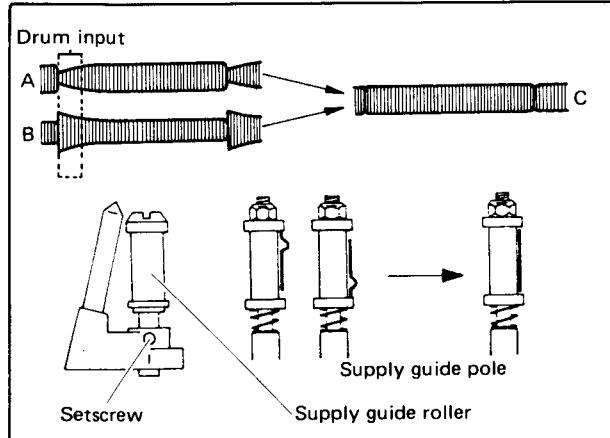

Fig. 4-47 Drum input adjustment
5. Refer to Fig. 4-47. Examples of incorrect waveforms are shown by A and B. Use a slotted screwdriver to adjust the supply guide roller so that the rising portion (drum input portion) of the waveform becomes flat as shown by C.